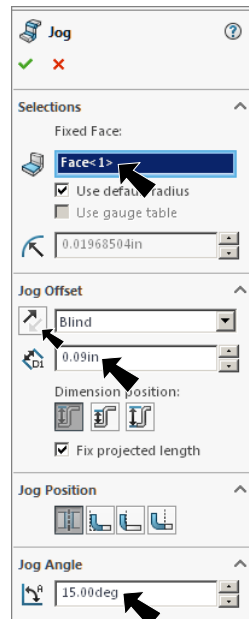

Fig. 16
Step 8. In the Jog Property Manager, under Fixed Face, **Fig. 16** click **bottom face next to hole**